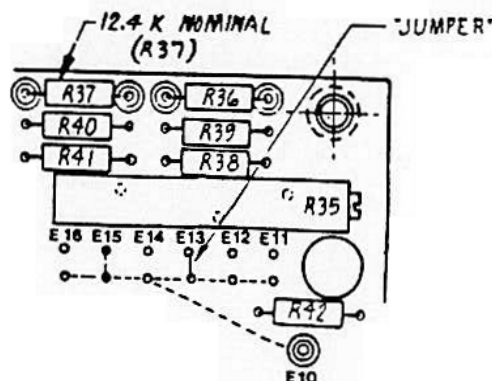

Figure 5.7 Location of Frequency Correction Compensation Jumper on Synthesizer Board Assembly.
- 5.14.4.3 Lay the jumper across the E10/E15 or E10/E14 terminals as illustrated in Figure 5.7 and carefully solder the jumper in place.
- 5.15.1 Remove the UUT from its outer cover by removing the twelve (12) screws and washers from the outer cover sides located near the baseplate end of the UUT. Then remove the four (4) screws and related washers on the connector end and carefully slide the UUT out of the outer cover. The "C-field" current is adjusted by changing pre-selected jumper wires or recalculating the required value of R37 and replacing R37 if necessary. Locate the compensation jumper connections on the synthesizer board. Refer to Figure 5.7.
Terminal E15 is normally jumpered to E10 at the factory, (dotted-line connections in Figure 5.7). If a jumper is installed between E10 and either E14 or E15 perform subsection 5.15.3 and omit subsection 5.15.4. If a jumper is installed between E10 and E16 omit subsection 5.15.3 but perform 5.15.4. It may be also necessary to perform 5.15.5). If E10 is not jumpered to either E14, E15, or E16 omit subsection 5.15.3 and 5.15.4 but perform subsection 5.15.5.